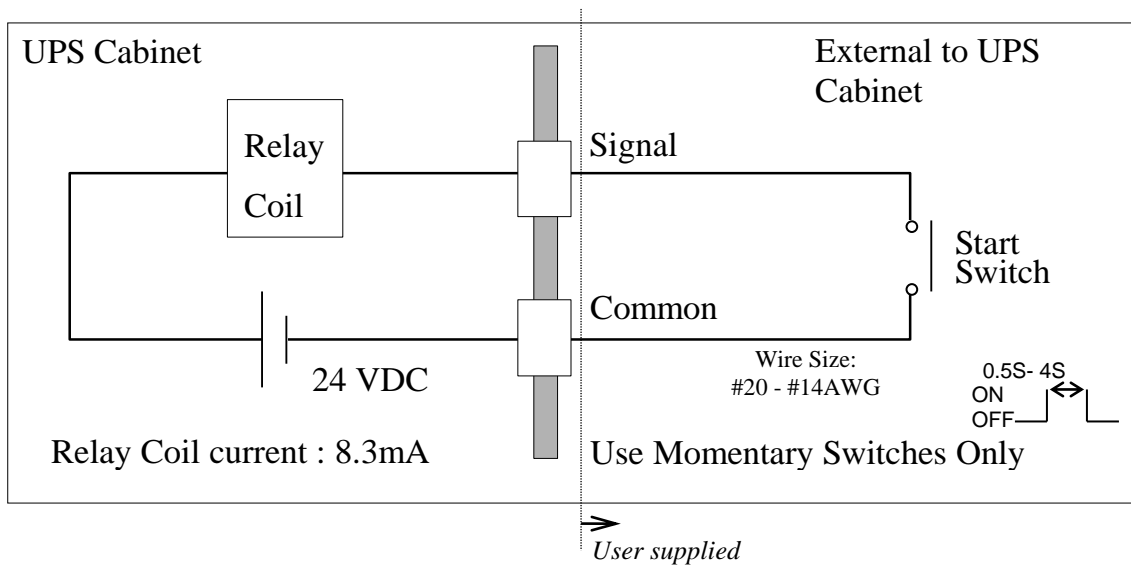
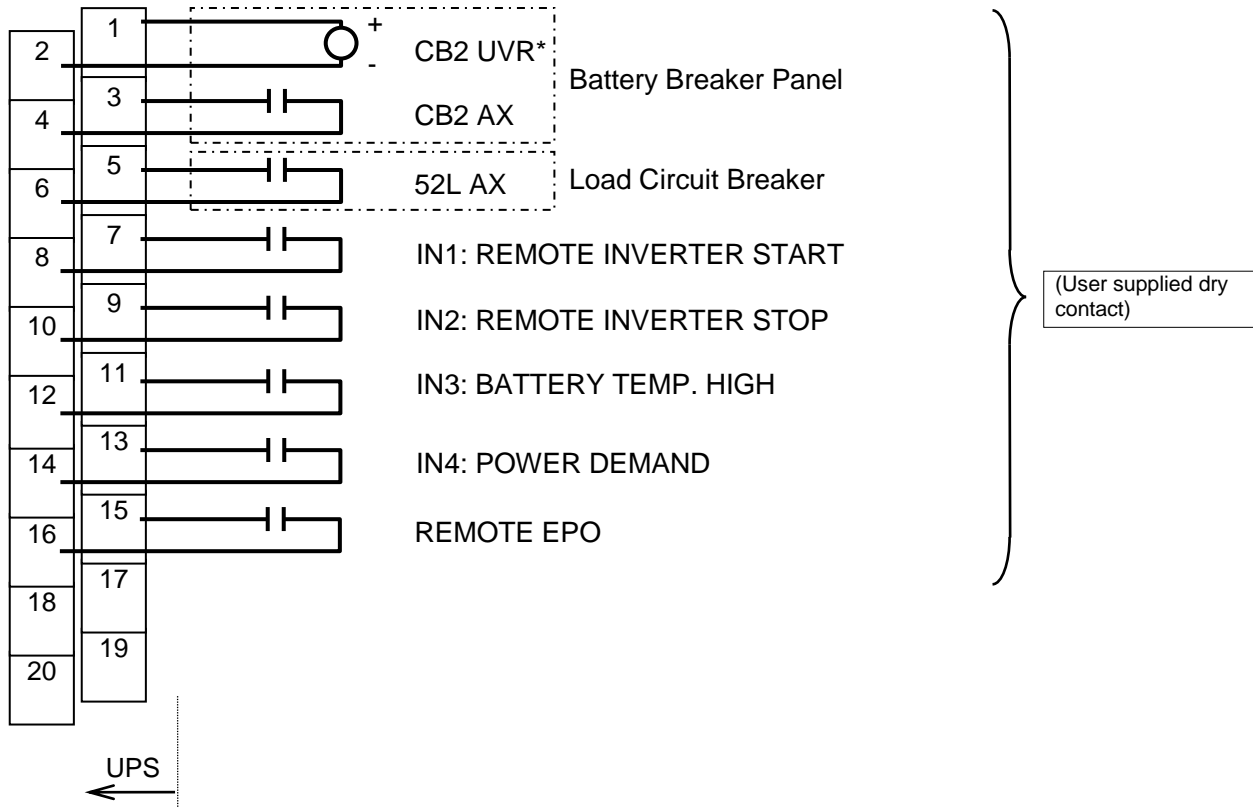

Figure 4-18 Control Wiring for Aux Input Contacts
Figure 4-19 External Signal Terminal Block – TN1 (NEC Class2)
The UPS is equipped with a series of input/output terminals for external annunciation of alarms and for remote access of certain UPS functions. The layout of terminals is shown in Section 4.4.1 and 4.4.2. Figure 4-18 and Figure 4-19 with a functional description of the input/output port presented. OUT1 to OUT8 are user programmable; factory default settings are shown in Table 4-1.
Inputs require a dry NO (Normally Open) contact to be wired on the corresponding terminals on TN1 of IOAU-09. Closing this contact activates the selected function for that input. The Inputs provide a signal or "wetting" voltage of 12VDC / 16.7 mA. See Figure 4-18.
Refer to Figure 4-18 for a typical wiring configuration. Although this Figure applies to the remote start/stop terminals, the same wiring arrangement is used for emergency stop; power demand; and battery temperature high.
*** UVR is required for proper operation of system. If the UVR is not present or it is not properly installed, the system warranty is voided. If you encounter this condition, stop and do not continue with start-up. (See Figure 4-19 and Figure 5-3 for connection.)**